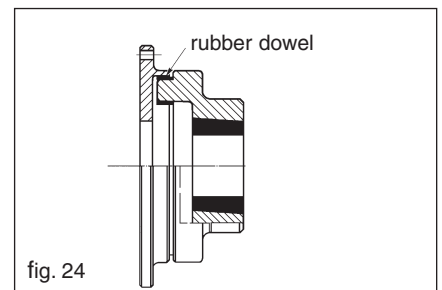

fig. 24
13.12 Replacing the rubber dowels of BALBONI GFB flexible couplings (fig. 24)